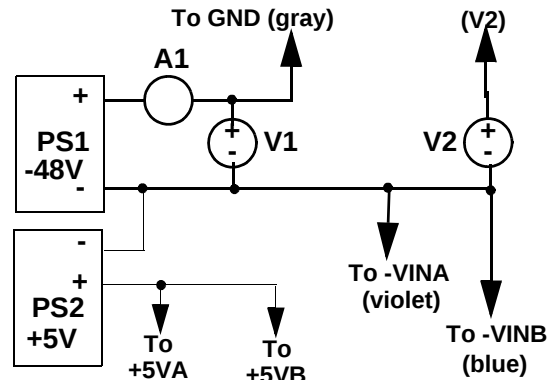

FIGURE 3. SUPPLY AND METER HOOK UP
1. One -48V power supply (0.5A total, 0.25A/channel) and one +5V supply are needed to fully exercise all functions of the device. The user should be sure the +5V supply is referenced to $-V_{IN}$ to avoid damaging the IC. The external +5V supply (PS2) should be connected to the +5VA and +5VB test pins of each channel. The two channels can share the same negative supply ($-V_{IN}$, PS1) or operate from independent supplies if desired, but they share the same ground plane on each board (bottom). No special power-up or power-down sequencing is required. If only one channel is being tested, the other can be left unconnected. The following instructions are the same for both channels. As shown in Fig. 3, A1 is an optional ammeter to measure current; V1 is a Voltmeter to measure power supply voltage, and V2 is a voltmeter to look at other signals. Note that the voltmeters are referenced to the negative supply rail.